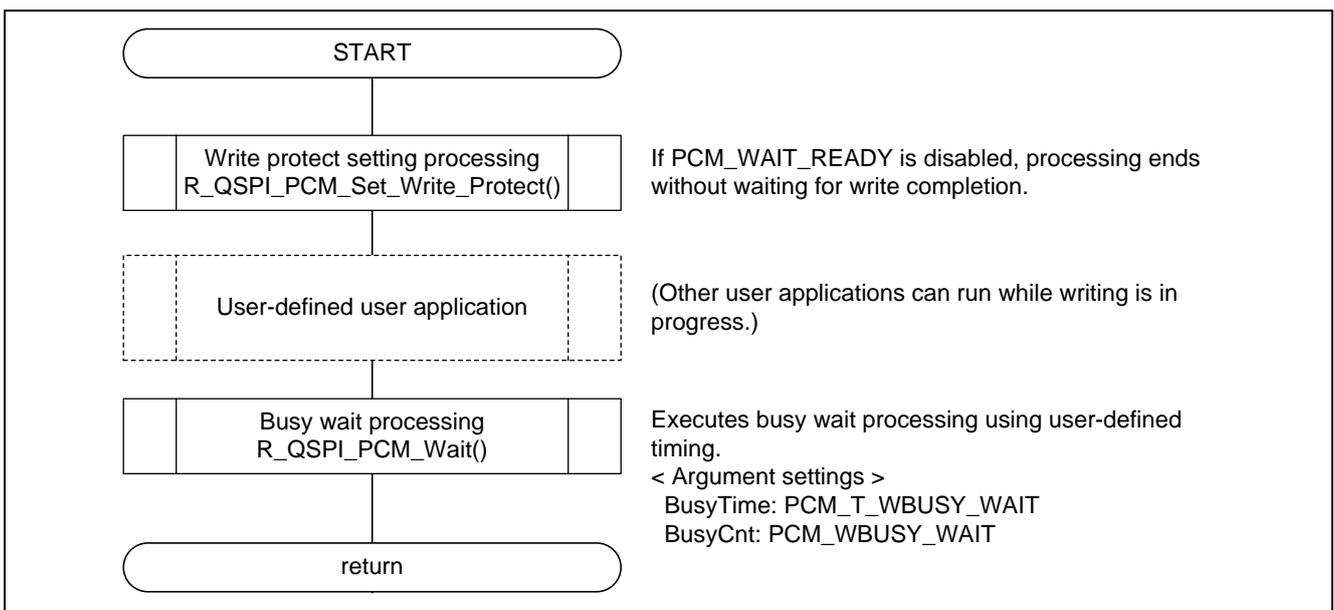

Figure 5.11 Using R_QSPI_PCM_Wait() to Wait for Write Protect Setting Completion
- To wait for write completion without using the user API, disable PCM_WAIT_READY in r_qspi_pcm_p5q.h and call R_QSPI_PCM_Wait() after processing by the user API finishes. This processing method allows the use of a user-defined duration when waiting for write completion. Refer to figure 5.11 for the usage method.